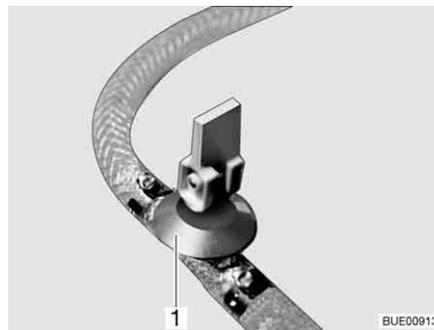
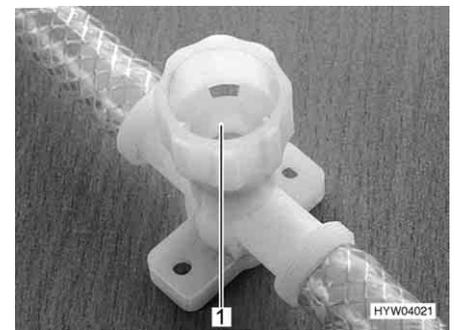

Fig. 145 Drain cock (with rocking lever)
Fig. 146 Drain cock (with twist cap)
- Open all drain cocks. To do this, position the drain cock's rocking lever (Fig. 145,1) vertically or turn the drain cock's cap (Fig. 146,1) in an anti-clockwise direction.